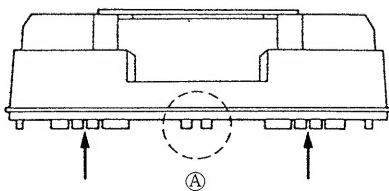

Fig. 3
The D891 on the drum pulse board detects the cassette holder position by detecting a slit in the bottom of drum. Holder rotation stop position is detected at the position shown with arrow in Fig. 3, and holder number is detected at ① position.